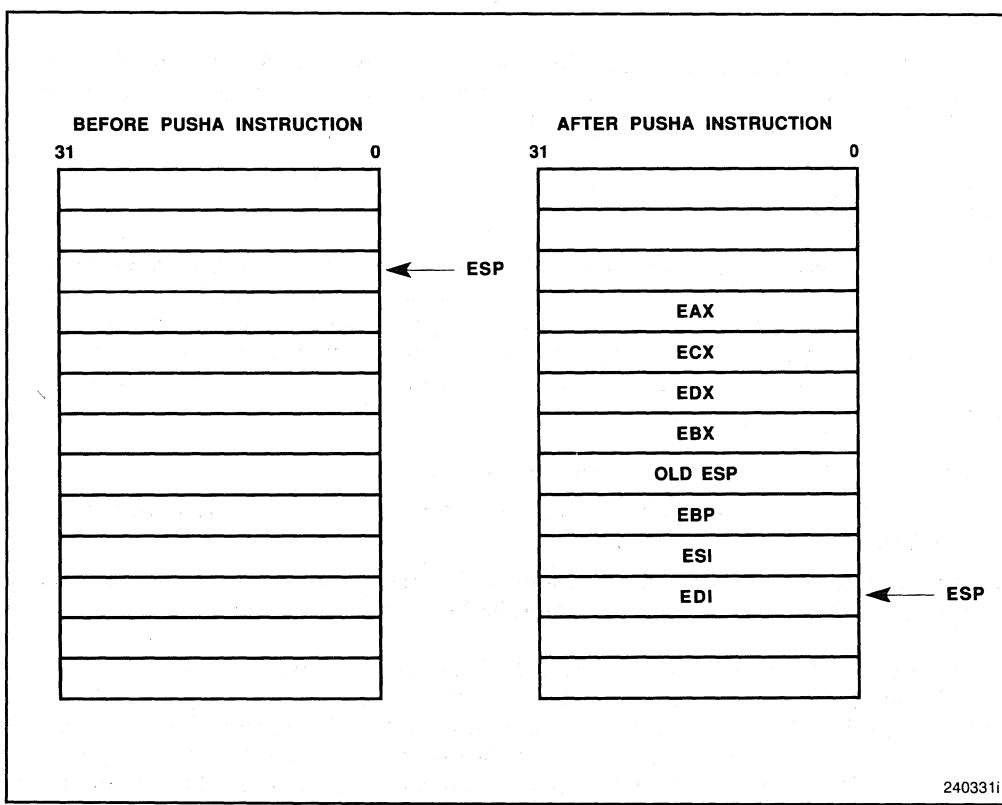

Figure 3-2. PUSHA Instruction
**PUSHA (Push All Registers)** saves the contents of the eight general registers on the stack (see Figure 3-2). This instruction simplifies procedure calls by reducing the number of instructions required to save the contents of the general registers. The processor pushes the general registers on the stack in the following order: EAX, ECX, EDX, EBX, the initial value of ESP before EAX was pushed, EBP, ESI, and EDI. The effect of the PUSHA instruction; is reversed using the POPA instruction.